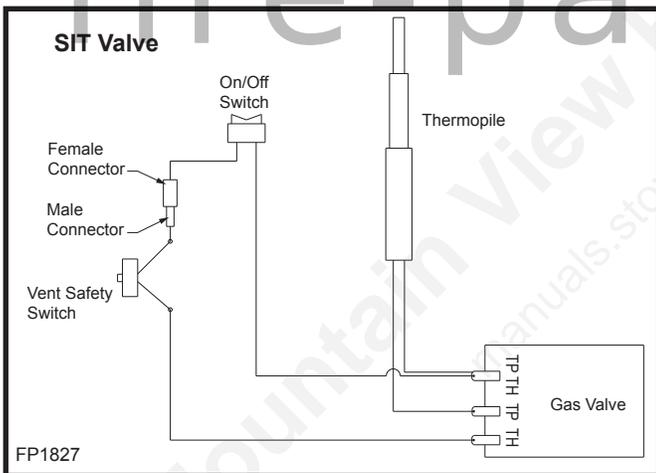

Fig. 9a On/Off switch or millivolt thermostat.
4. Connect wiring from the switches to the gas valve (Fig. 9a & b).